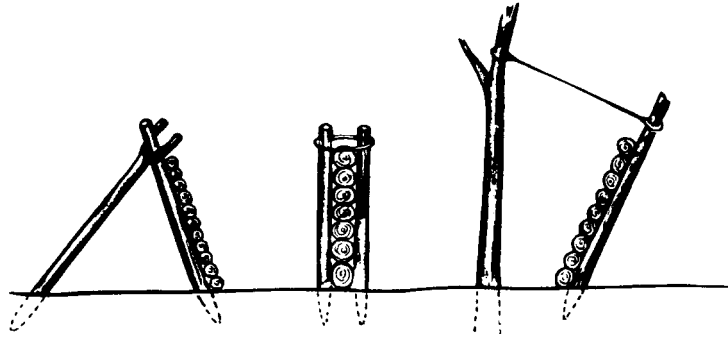

Figure 3-11 Log Reflectors
- n. Reflector Wall. To reflect the heat of the fire into a lean-to and also to act as a small windbreak, a reflector wall should be constructed. It is made of green logs the length of the lean-to and build up like a wall approximately three feet from the outside edge of the fire. For an example of walls see Figure 3-11.